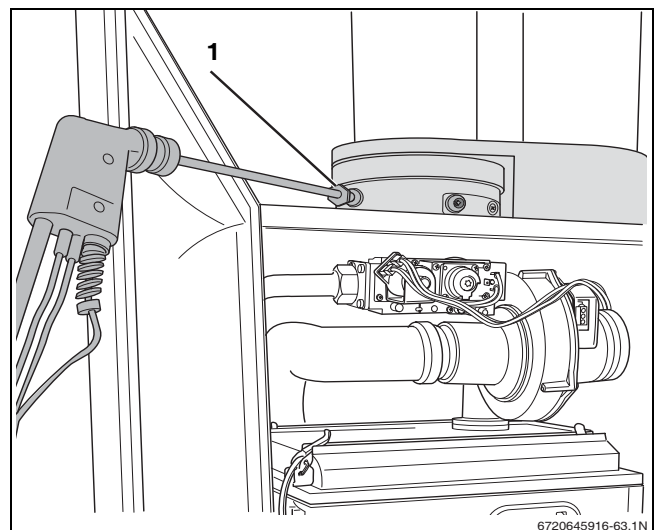

Fig. 15 Measuring the flue gases CO₂ emissions
- Remove the cover from the flue gas measuring point fig. 15, [1]).
- Connect the flue gas analyzer to the left-hand measuring point, insert it roughly 2" fig. 15.
- Remove the flue gas analyzer and fit the cover back onto the flue gas measuring point fig. 15, [1]).